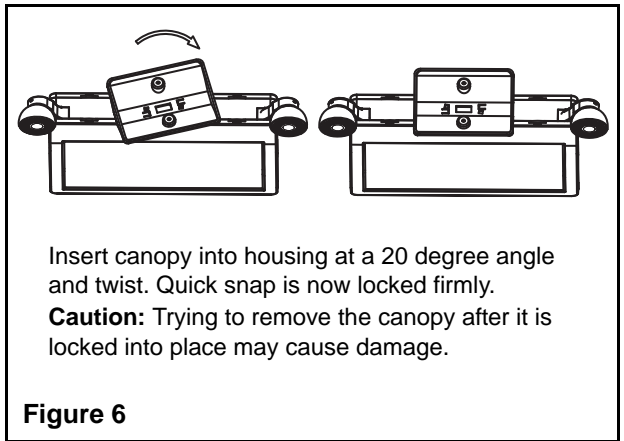

Figure 6
- c. Install canopy according to mounting configuration (see figure 6).